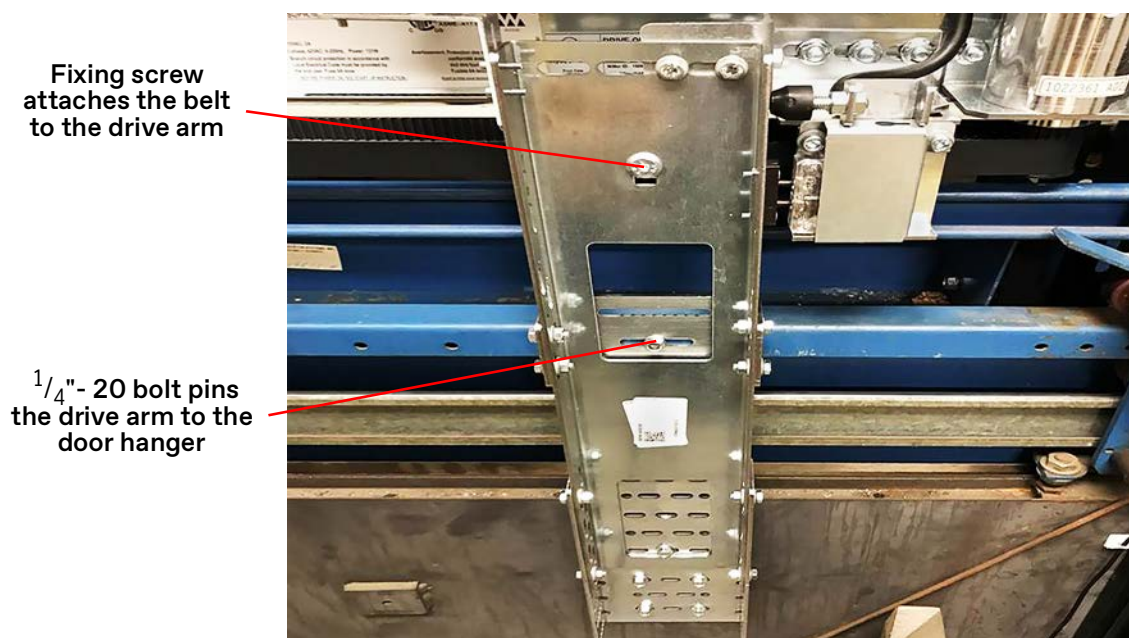

Figure 11 - Pin the Drive Arm/Completed Belt Installation
10. Use a $\frac{1}{4}$ " - 20 bolt to pin the drive arm to the door hanger to increase the strength of the drive arm. See Figure 11.